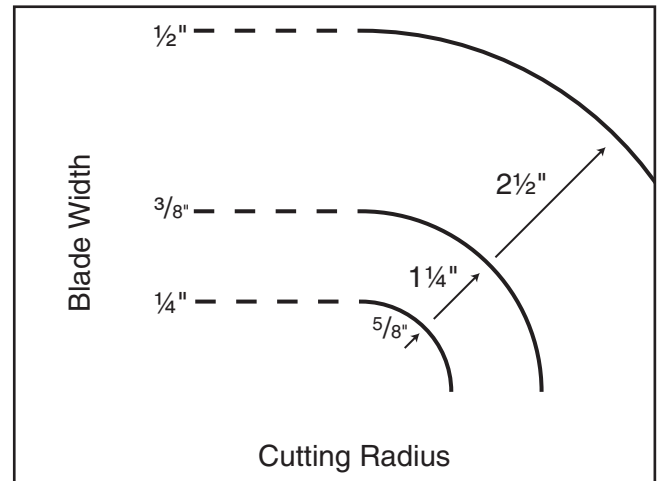

Figure 37. Ideal cutting radius/blade sizes.
- **Curve Cutting**—Use the chart in **Figure 37** to determine the correct blade for curve cutting. Determine the smallest radius curve that will be cut on your workpiece and use the corresponding blade width.